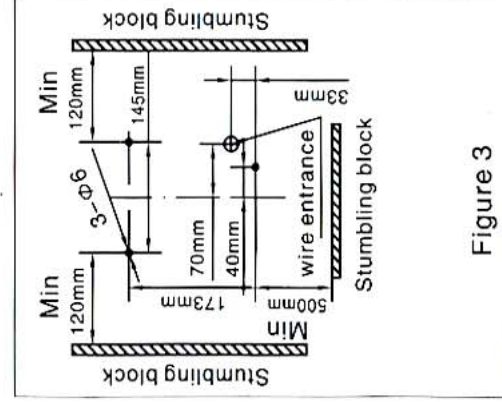

Figure 3
2. As shown in (Figure 3), drill 3 holes of 6mm diameter.